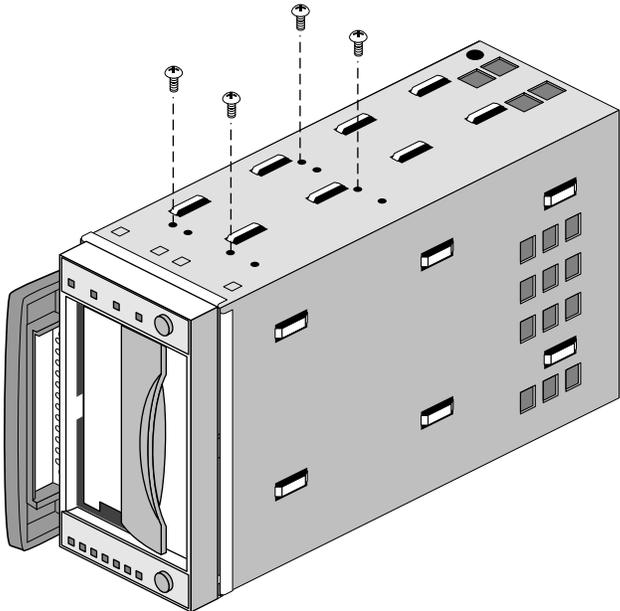

Figure 2-3 Removing the Screws from a Peripheral Carrier
1. Remove the two screws on the top and the two screws on the bottom of the carrier, as shown in Figure 2-3. Note the screw hole locations for replacement.